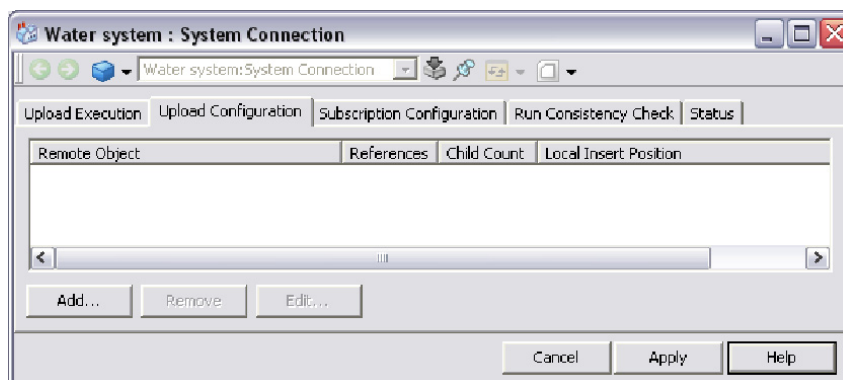

Figure 65. Upload Configuration Tab Before Upload
2. Select the **Upload Configuration** tab in the Preview Area to produce the view shown in Figure 65. After an upload is performed, this view will show the number of children for this entry in the Provider and Subscriber System. If the count differs, the systems are not in sync and a new upload is needed. If <No data> is shown the communication towards the Provider is down.